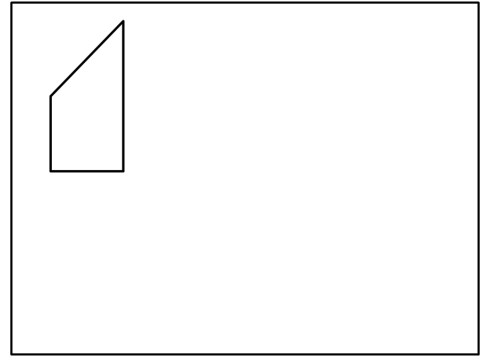

Figure 2: Rhomboid on Paper
1. Place a sheet of white paper on the lab bench, and then set the acrylic rhomboid (frosted side down) near the top-left corner of the paper. Adjust the orientation of the rhomboid to match that shown in Figure 2.